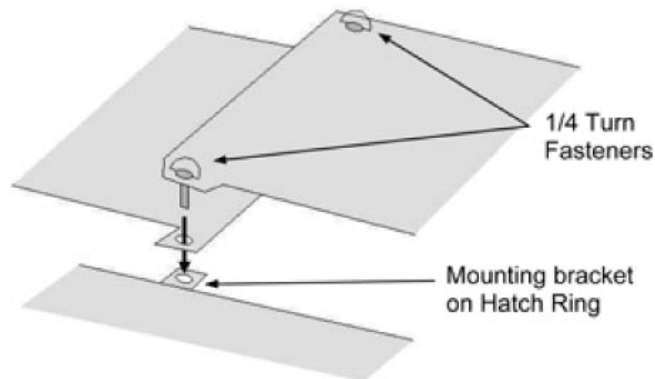

Figure 15. Overlapping Ends of Closeout for Final Attachment.
- 10.3 Overlap ends of Closeout, if necessary detaching 1/4 Turn Fasteners at end of Closeout. Reattach 1/4 Turn Fasteners at end of Closeout by inserting through tabs on other end of Closeout. Press Velcro at Closeout ends together. Refer to Figure 15.